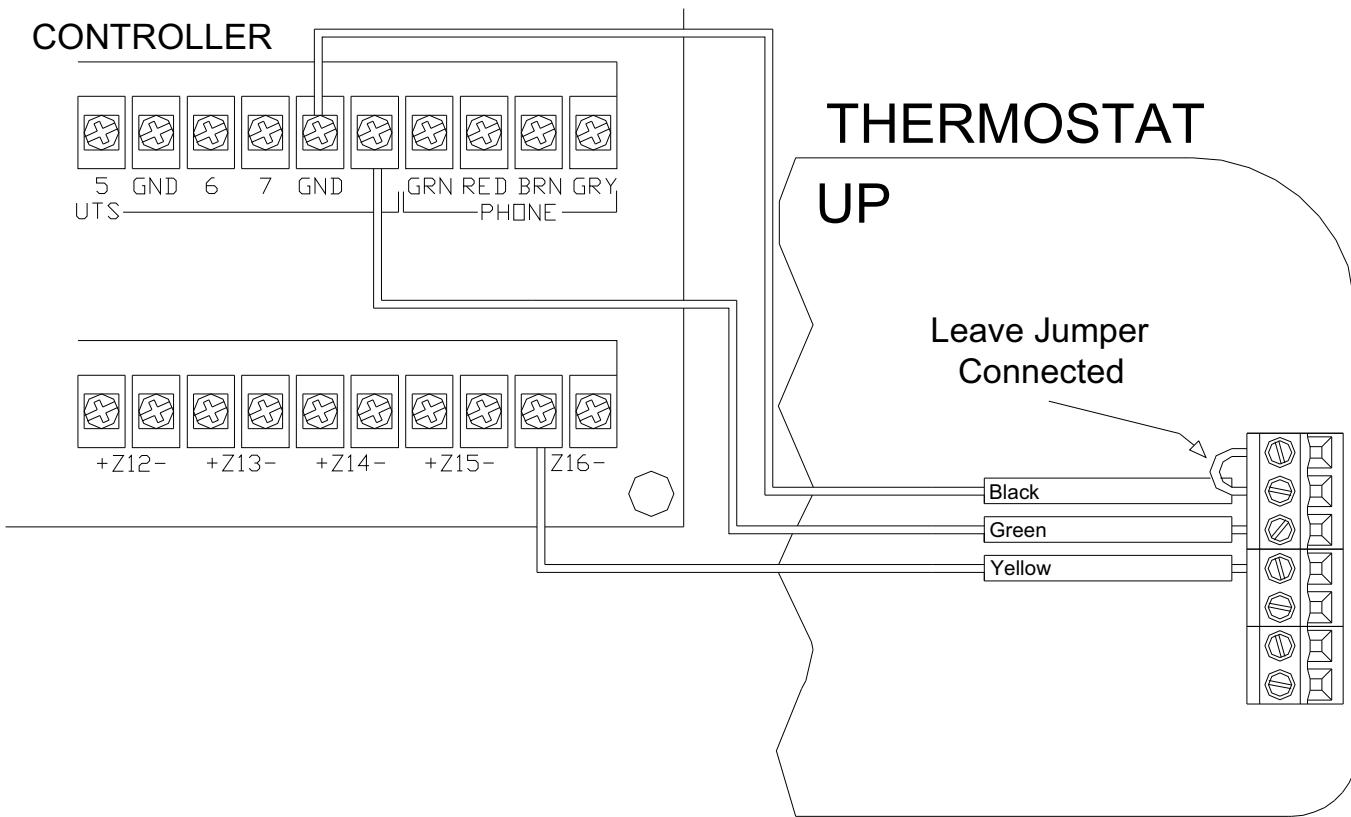

Figure 8 – Connections to HAI Home Control System
If a remote system or temperature sensor is being used with the thermostat, connect the remote system or temperature sensor wiring per the diagram for the application - **See Figures 8 - 10**.
Run a 3 (or 4) conductor wire from the HAI system to the thermostat location. All thermostats on an HAI Home Control system are connected to Ground, Zone +16, and Output 8 - **See Figure 8.**
2. When connecting to an HAI Home Control System, the metal jumper between terminal labeled “N/C” and the terminal labeled “Black” on the right terminal strip must remain in place – **See Figure 8.**